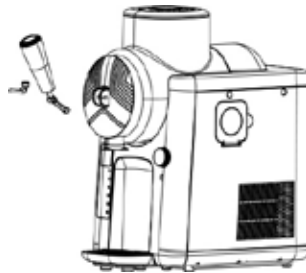

Fig. 4
12. Now insert the tap into the opening and insert the locking pin to secure the tap (Fig. 4): To do so, the holes in the outlet and the lever on the tap